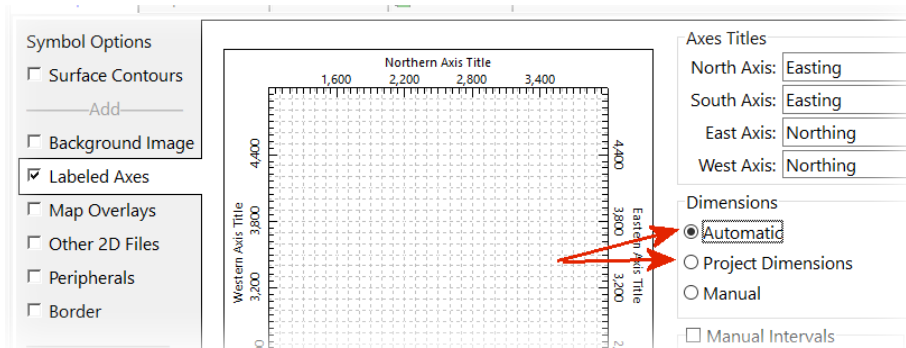

Figure 54
- To address Problem #1 (labels plotting outside the *Project Dimensions*), click on the *Labeled Axes* (Figure 54) and change the *Dimensions* from *Project Dimensions* to *Automatic*. This will cause the border to expand such that it accommodates all of the items within the map.